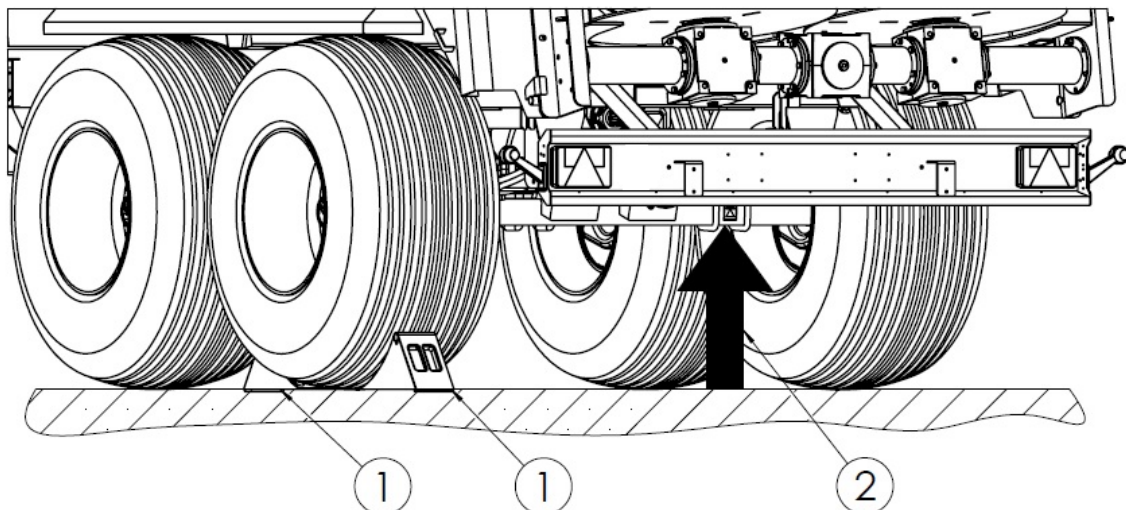

Figure 47. Jacking points:
If it is necessary to disassemble the wheel, observe the jacking points (2) under the axle. See Figure 47 for the jacking points. Place the safety chocks (1) under one wheel only.